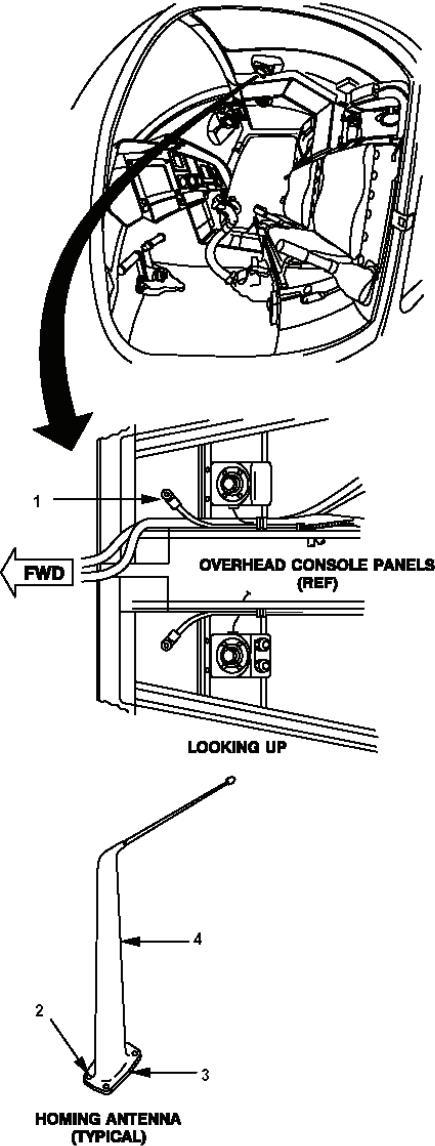

Figure 15 |
(9) Using one of each retained screw (4), lockwasher (5) and washer (6), install fabricated angle bracket in cabin roof at forward right insert previously used by coupler.
(10) Install new connector (part number M39012/17-0502).
(11) Attach 2304Z2P2 to new connector on angle bracket.
n. Remove FM Antenna. (See Figure 15)
(1) Disconnect coax connector (1) for left side.
(2) Remove old sealing compound from mounting screws (2), mount (3), and surrounding mounting surfaces using plastic scraper.
(3) Remove four mounting screws (2) from mount (3).
(4) Remove homing antenna (4).